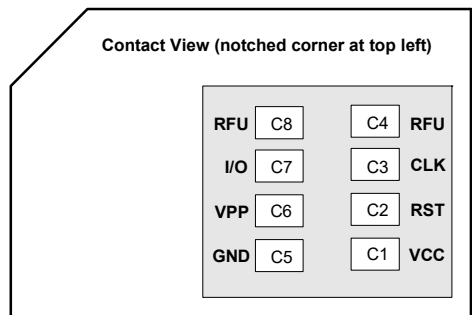

Figure 2-5: SIM Card Contacts (Contact View)
- a. See Figure 2-5 on page 31 for SIM card contacts.